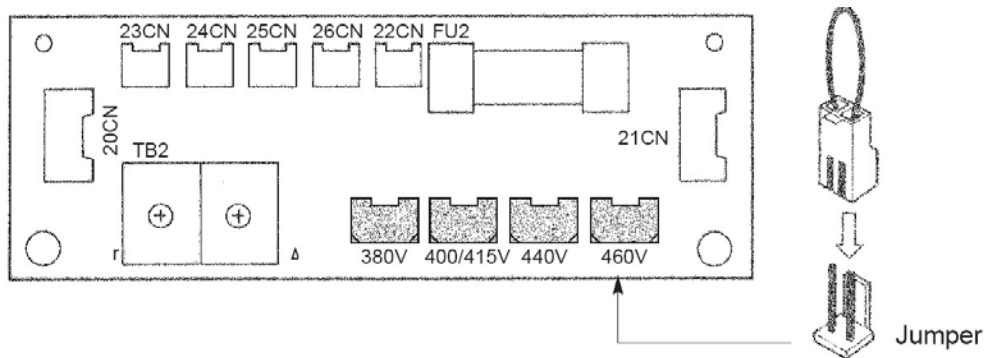

Figure 4.1 Setting the Power Supply Voltage (For 400 V Class Power Regenerative Unit between 37 kW and 75 kW)
3. Insert the jumper at the position for the voltage supplied to the power regenerative unit (see **Figure 4.1**).